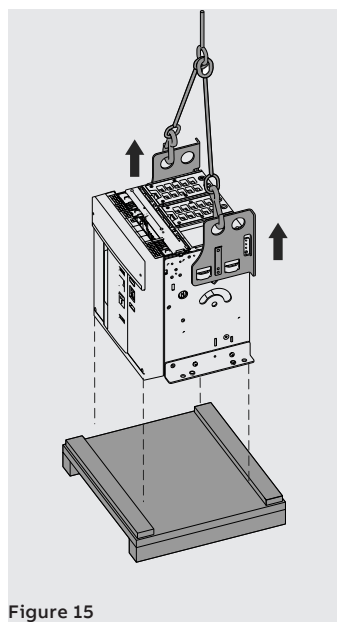
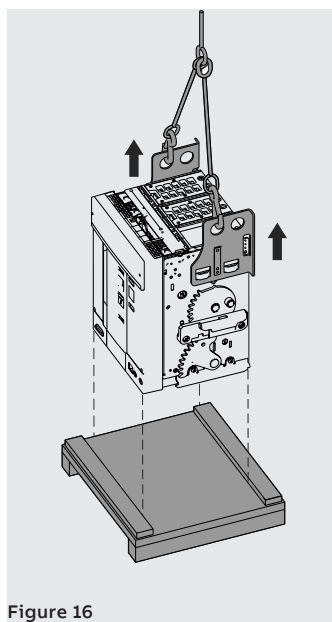

Figure 15
Figure 16
- Raise the circuit-breaker from the base of the packaging with the aid of the lifting plates supplied with the circuit-breaker. See Figure 15 and Figure 16.